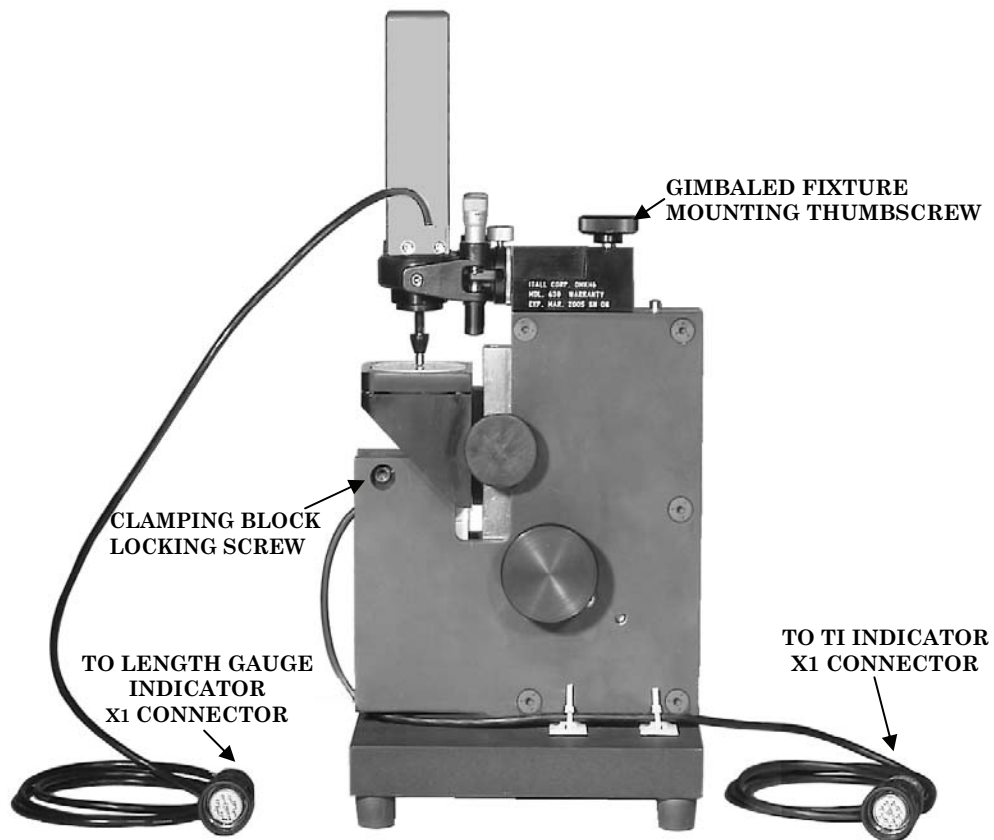
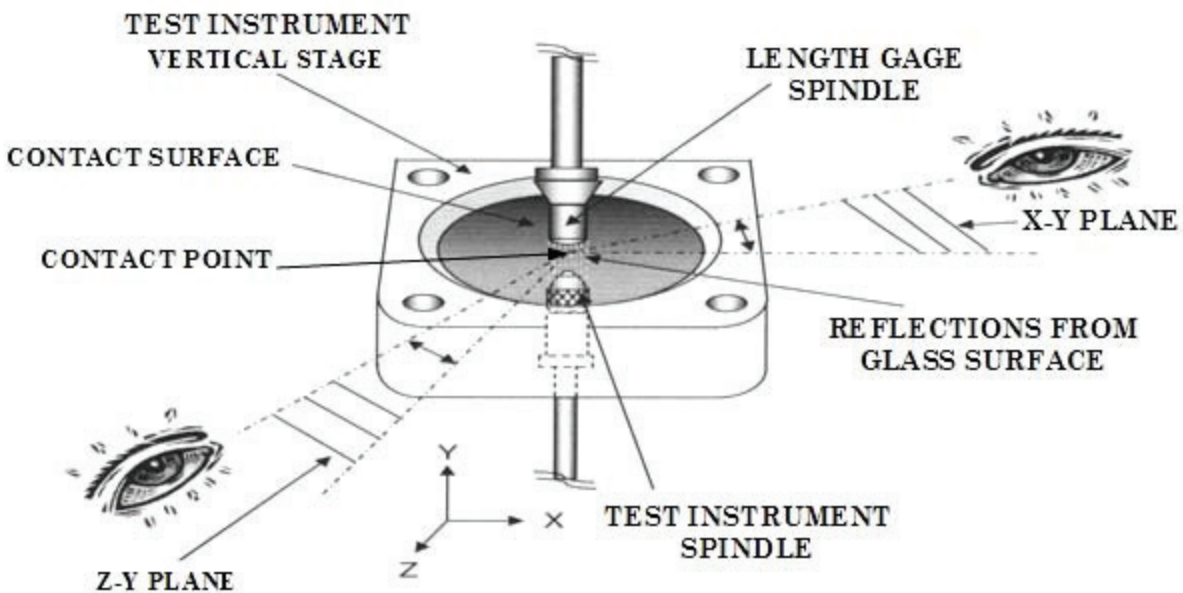

Figure 1. Equipment setup.
Figure 3. Length gauge spindle alignment.
b. Connect indicators as shown in figure 1. Fasten length gauge to TI, as shown in figure 1, using gimbaled fixture supplied with length gauge.
Adjustment procedure follows: Place the TI (without indicator) in a horizontal (back down) position. Loosen the clamping-block locking screw (fig. 1) 1/4 of a turn counterclockwise, using a 3/16 inch Allen wrench. Position transducer as necessary; turn the clamping-block locking screw (figure 1) 1/4 of a turn clockwise, using a 3/16 inch Allen wrench until it is securely clamped and there is no binding of the transducer spindle. It is important that the TI transducer spindle move freely and the transducer not slip.
g. Adjust the TI course adjustment knob so that the TI contact surface is fully raised. Loosen gimbaled fixture mounting thumbscrew (fig. 1). Adjust gimbaled fixture so that the length gauge contact point is aligned with the TI contact point (fig. 3). Tighten gimbaled fixture mounting thumbscrew.